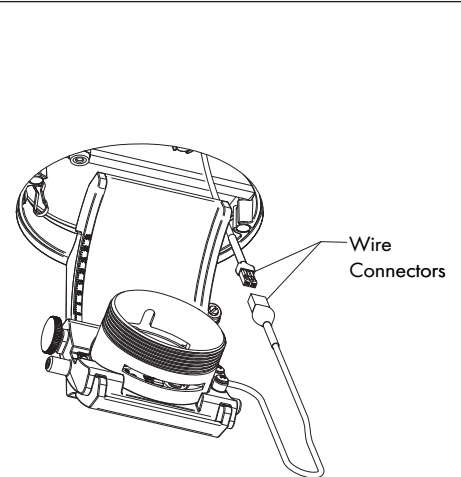

FIG 6.3 Remove/Replace J5 Lamp Module
Use Horizontal Lock Screw to secure the horizontal adjustment - **FIG 6.3**.
STEP 2 Install J5 Lamp Module through trim aperture and connect wire connectors making sure not to trap wiring underneath - **FIG 6.3**.